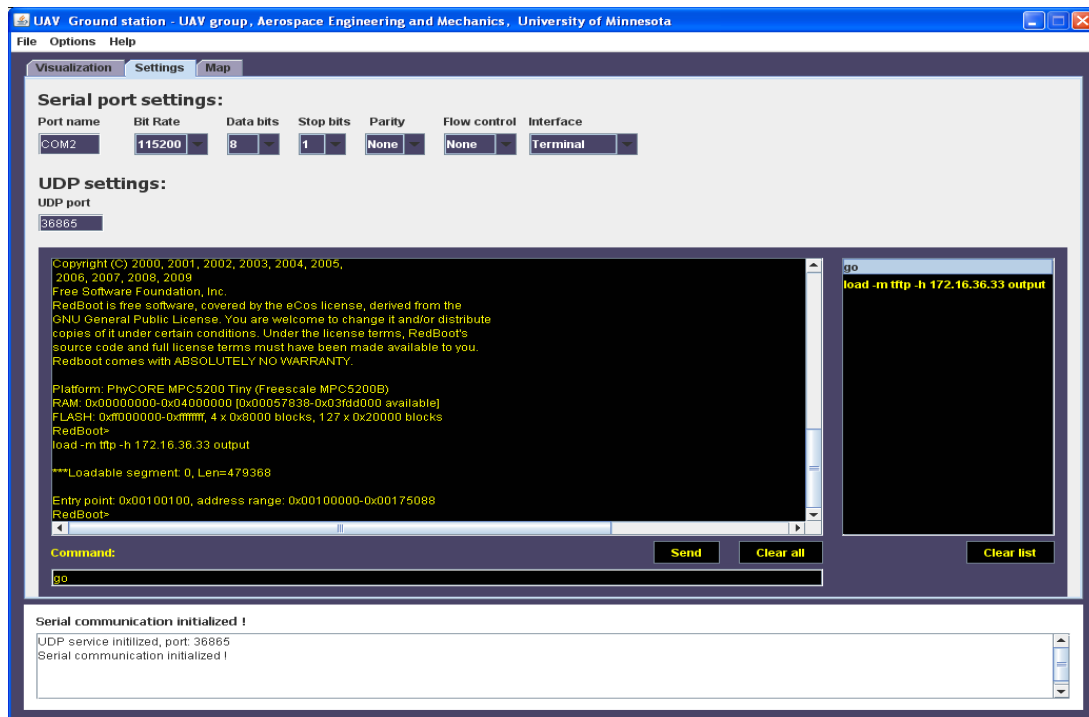

Figure 7. OpenUGS Ground station terminal
- Click on *Options – Input – Serial port*. The console at the bottom should display the message “Serial communication initialized !”. A screen shot of the Ground Station program is shown in Figure 7.